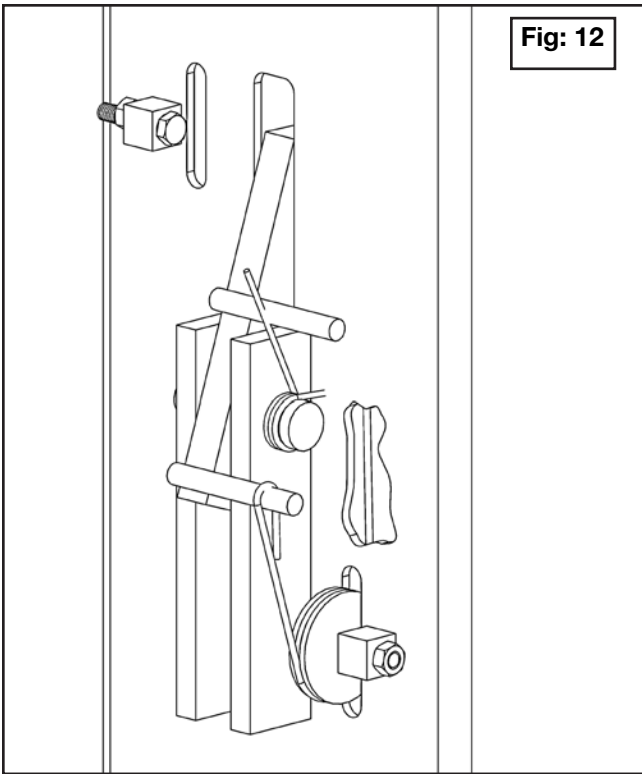

Fig: 12
2. From the offside column insert the non looped end of the safety cable through the slot located to the right of the offside safety weldment and route under the pulley and take it up to the top trough. (See figure 12 on next page)